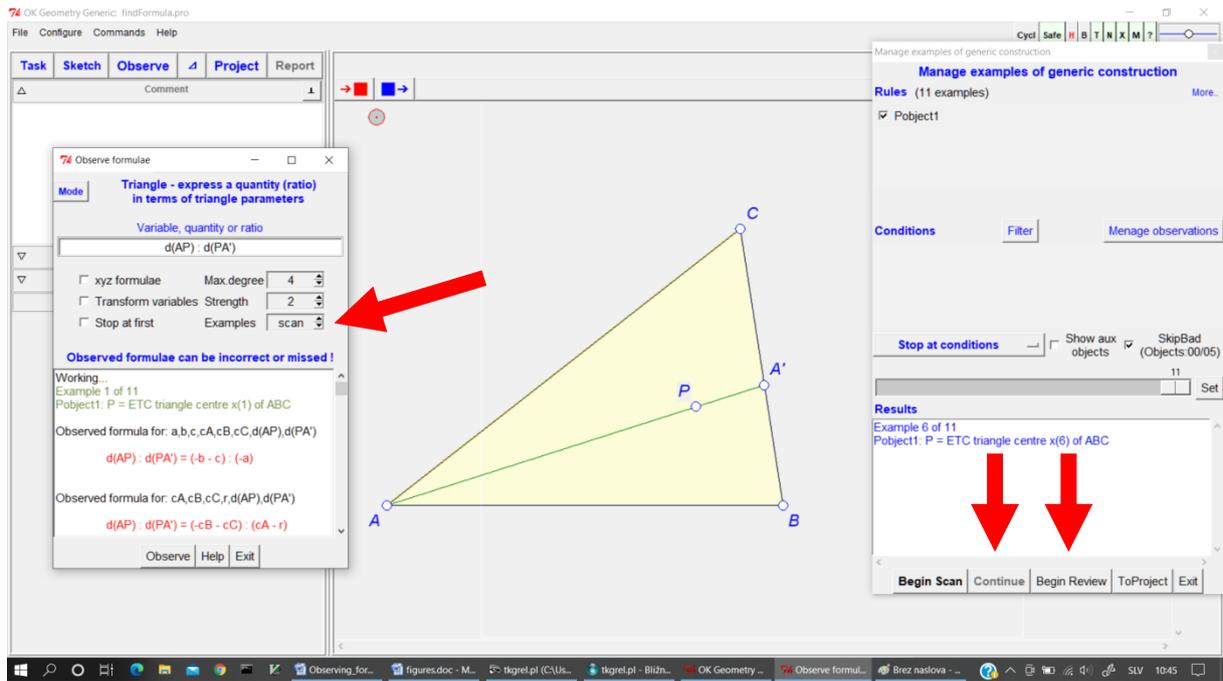

Figure 71
1. Fill the **Observe formulae** form, in our case we observe the ratio $d(AP):d(PA')$. In particular, be sure that the entry **Examples** is set to **scan** (Figure 71).
3. At the end of the observation, you are asked whether to pass to the examples manager the information for which examples something useful was found. If you choose to do so, you can review the examples with the **Begin Review** and the **Continue** buttons in the form for managing examples (Figure 71).